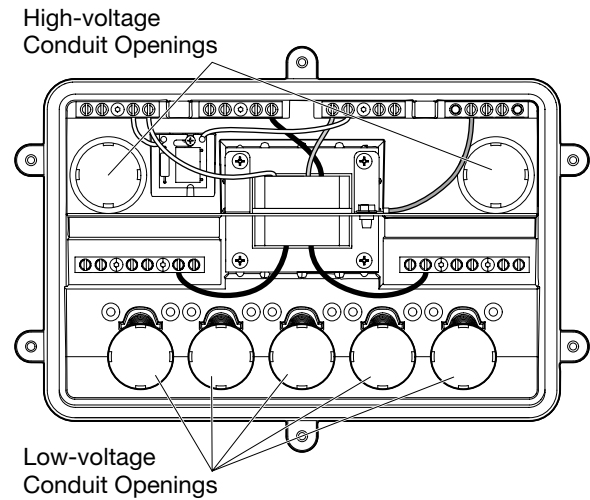

FIG. 3. Junction Box Transformer Conduit Openings
3. Run the high-voltage and low-voltage non-metallic conduits to the junction box transformer. See FIG. 3 for the location of the conduit openings.